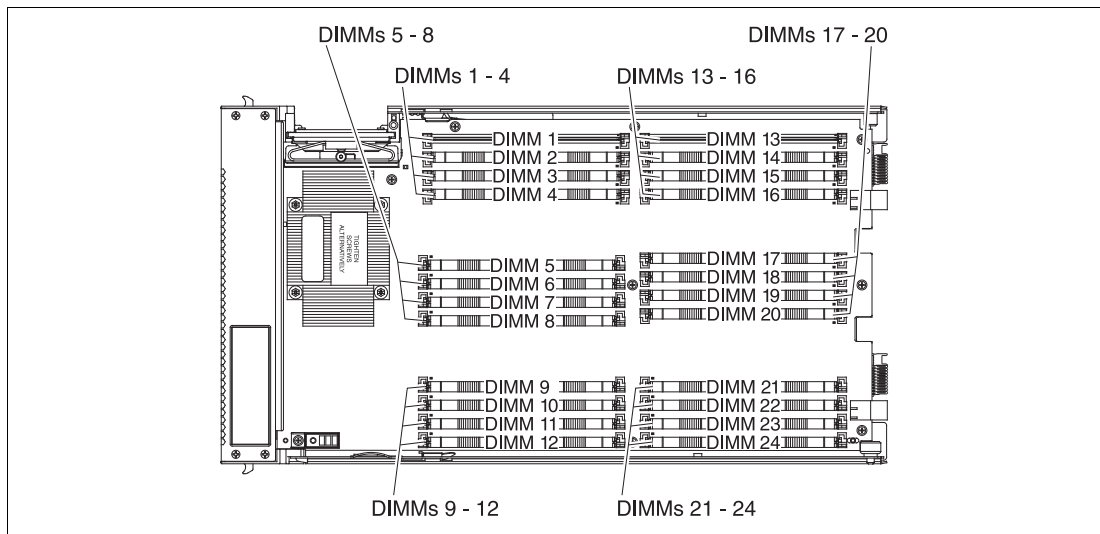

Figure 3-69 DIMM layout on the MAX5 system board
The MAX5 memory expansion blade has 24 memory DIMM sockets (Figure 3-69). The MAX5, which must be connected to an HX5 system (only the 1-node HX5 supports the MAX5), has one memory controller and six SMI connected memory buffers.
- ▶ The data widths for the following quads must match. For example, DIMMs in each quad must be all 4Rx8 or all 2Rx8. See Figure 3-66 on page 361 for the block diagram and Figure 3-69 on page 366 for the physical location of these DIMMs.